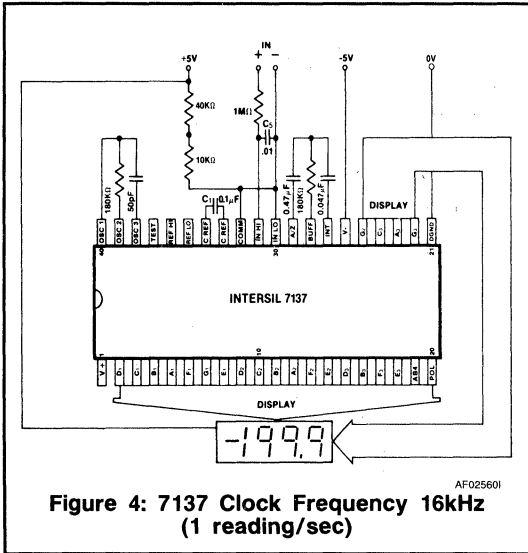

Figure 4: 7137 Clock Frequency 16kHz (1 reading/sec)
**NOTES:** 3. Unless otherwise noted, specifications apply at  $T_A = 25^\circ C$ ,  $f_{clock} = 16kHz$  and are tested in the circuit of Figure 4.